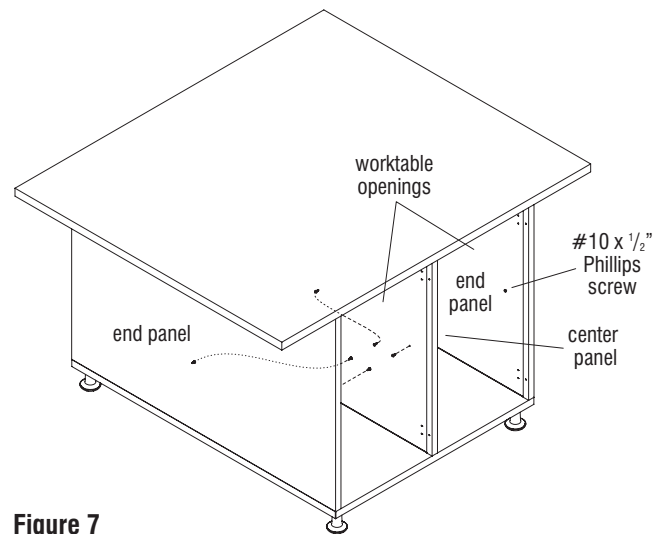
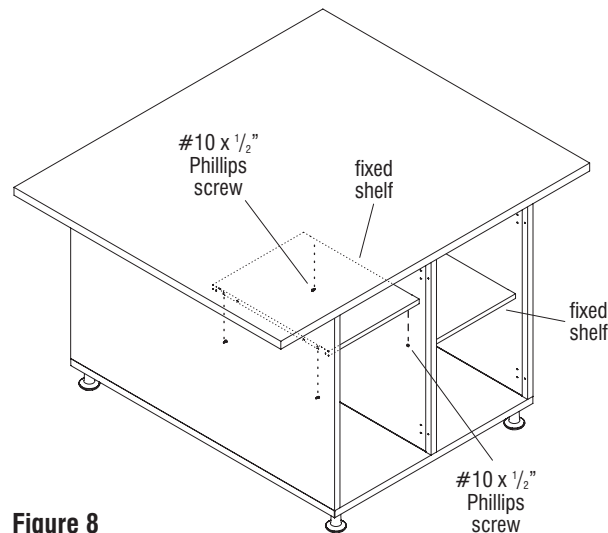

Figure 7
Figure 8
11. Loosely attach four #10 x 1/2" Phillips screws inside one of the worktable openings, two on the end panel and two on the center panel (Figure 7). Align the slots on the underside flanges of the shelf with the screws attached to the panels and set the shelf down over screws (Figure 8). Tighten the four screws to secure the shelf to the end and center panel. Repeat this process to install the remaining fixed shelves into the remaining worktable openings (Figures 7 & 8).